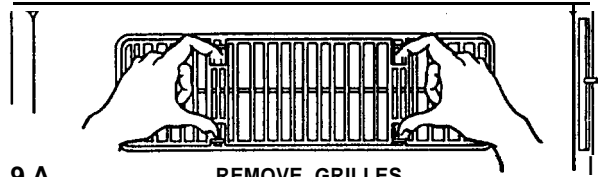

FIG. 9.A.
- A. Remove the two return air grilles and filters which are shipped loose in the air box. (FIG. 9.A)
- B. Slide the front end of the air box over the shafts of the thermostats and selector switch. (FIG. 9.B)